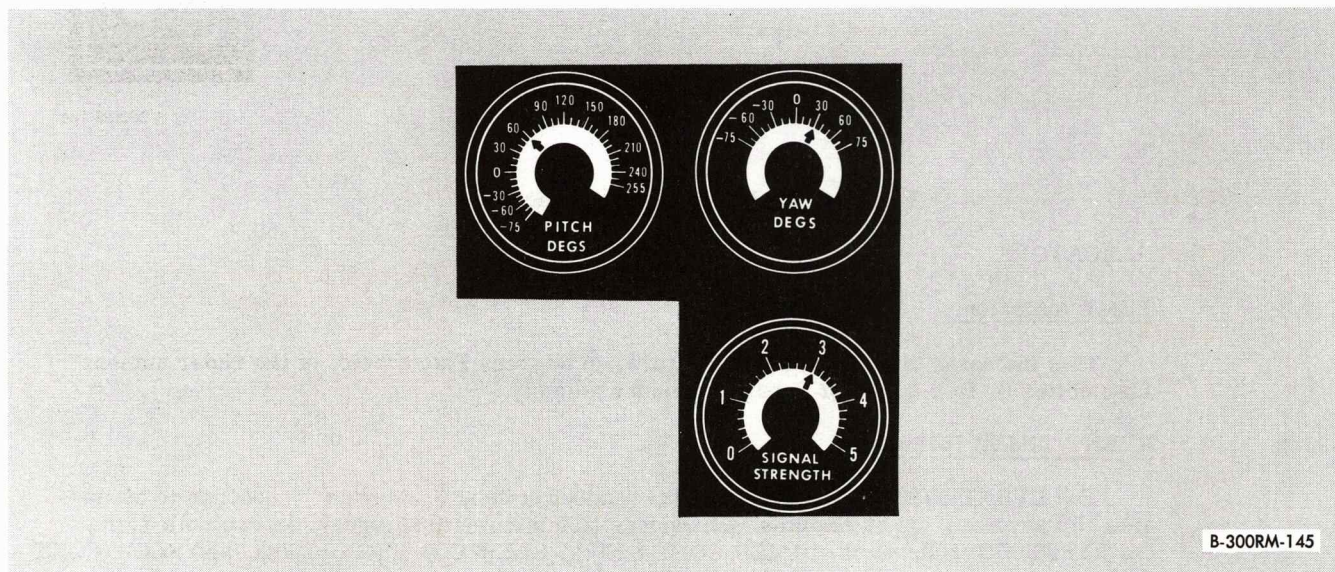

Figure 4-8. Communications Subsystem Indicators
The markings of the Communications Subsystem (CS) indicators are shown in figure 4-8.